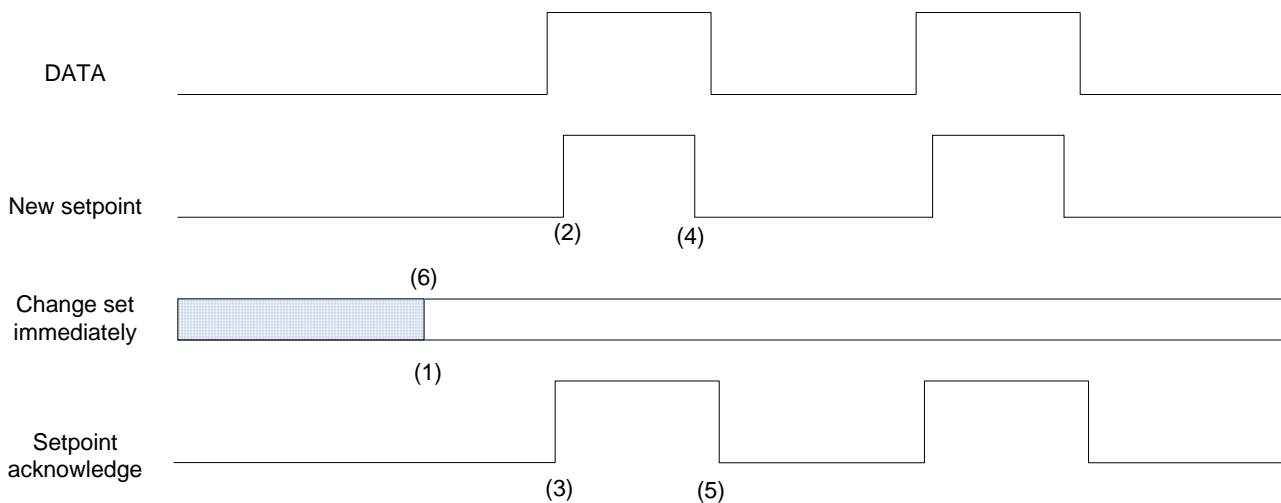
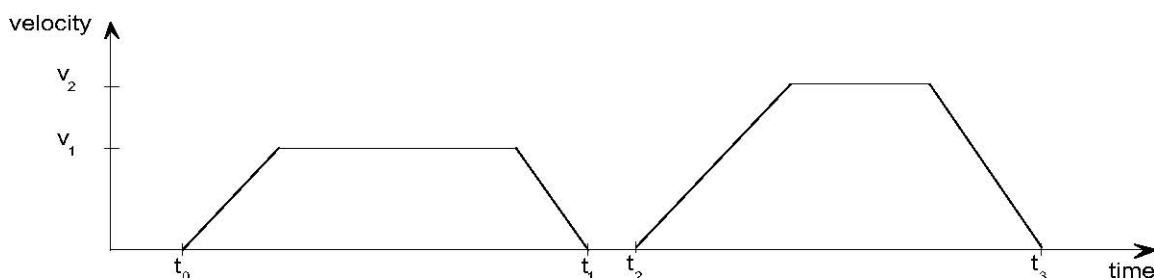

Figure 17: Set-point transmission from a host computer
Figure 18: Single set-point
Figure 17, Figure 18 and Figure 19 show the difference between the "set of set-points" mode and the "single set-point" mode. The initial status of the bit 'change set immediately' in the controlword determines which mode is used. To keep simple these examples, only trapezoidal moves are used.
If the bit 'change set immediately' is "0" (continuously drawn line in Figure 17) a single set-point is expected by the drive (1). After data is applied to the drive, a host signals that the data is valid by changing the bit 'new set-point' to "1" in the controlword (2). The drive responds with 'set-point acknowledge' set to "1" in the statusword (3) after it recognized and buffered the new valid data. Now the host may release 'new set-point' (4) and afterwards the drive signals with 'set-point acknowledge' equal "0" its ability to accept new data again (5). In Figure 18 this mechanism results in a velocity of zero after ramping down in order to reach a target position  $x_1$  at  $t_1$ . After signaling to the host, that the set-point is reached like described above, the next target position  $x_2$  is processed at  $t_2$  and reached at  $t_3$ .
If the bit 'change set immediately' is "1" (dashed line in Figure 17) the new target position will be active immediately. In Figure 19 the drive receives the first target position at  $t_0$ . At the time point  $t_1$  the drive receives a second target position. The drive readapts the actual move to the new target position immediately.